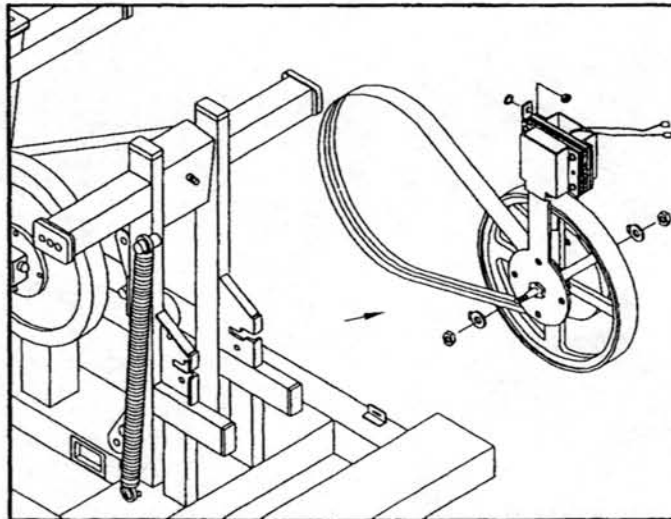

Fig.5-5
6. Remove all the nuts from the PULLEY WHEEL and move it from the FRAME (see fig 5-5).